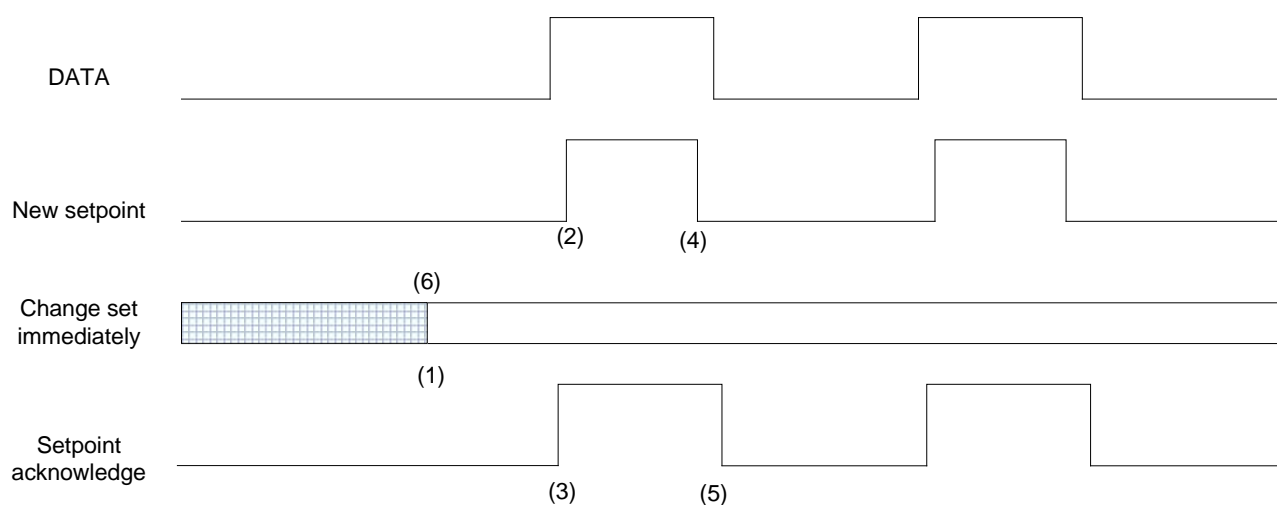
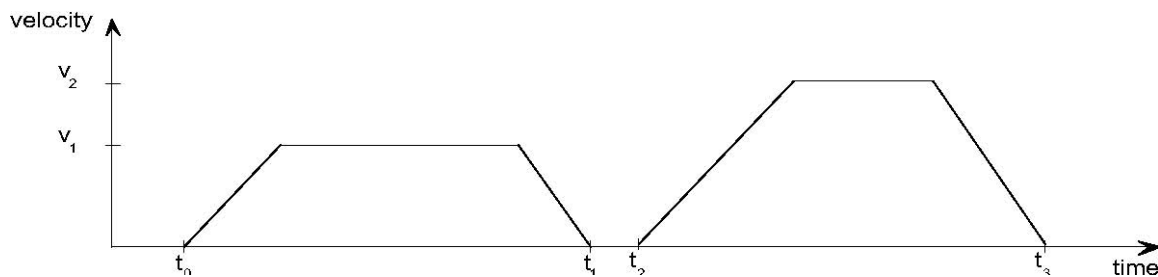

Figure 17: Set-point transmission from a host computer
Figure 18: Single set-point
Figure 17, Figure 18 and Figure 19 show the difference between the "set of set-points" mode and the "single set-point" mode. The initial status of the bit '*change set immediately*' in the *controlword* determines which mode is used. To keep simple these examples, only trapezoidal moves are used.
If the bit '*change set immediately*' is "0" (continuously drawn line in Figure 17) a single set-point is expected by the drive (1). After data is applied to the drive, a host signals that the data is valid by changing the bit '*new set-point*' to "1" in the *controlword* (2). The drive responds with '*set-point acknowledge*' set to "1" in the *statusword* (3) after it recognized and buffered the new valid data. Now the host may release '*new set-point*' (4) and afterwards the drive signals with '*set-point acknowledge*' equal "0" its ability to accept new data again (5). In Figure 18 this mechanism results in a velocity of zero after ramping down in order to reach a *target position* x_1 at t_1 . After signaling to the host, that the set-point is reached like described above, the next *target position* x_2 is processed at t_2 and reached at t_3 .
If the bit '*change set immediately*' is "1" (dashed line in Figure 17) the new target position will be active immediately. In Figure 19 the drive receives the first *target position* at t_0 . At the time point t_1 the drive receives a second *target position*. The drive readapts the actual move to the new target position immediately.